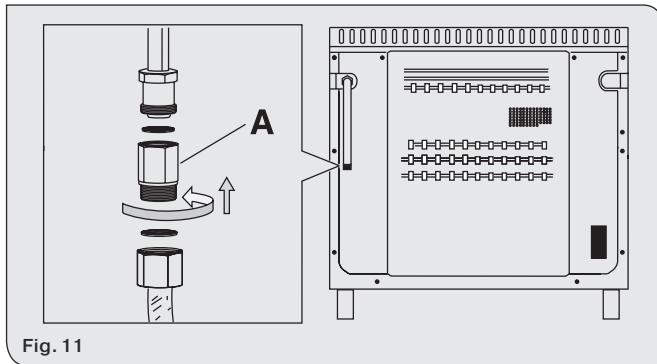

Fig. 11
- 2) by flexible tube in stainless steel with continuing wall, with mechanical connection in accordance with rules (see fig. 11).
WARNING: connect the gas to the oven's gas supply line using the supplied connector (A) (see figure 11)